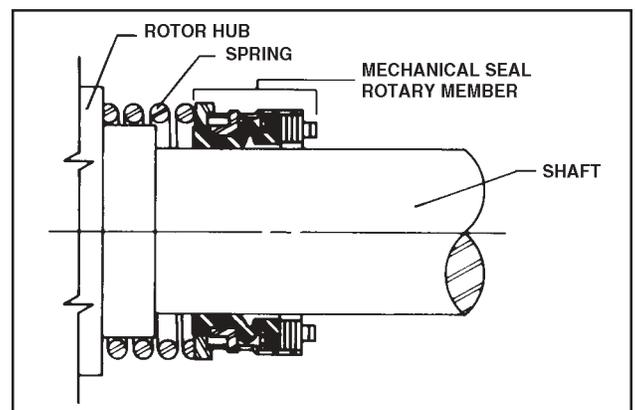

Figure 23
5. Place seal spring on shaft against rotor hub. Refer to Figure 23.